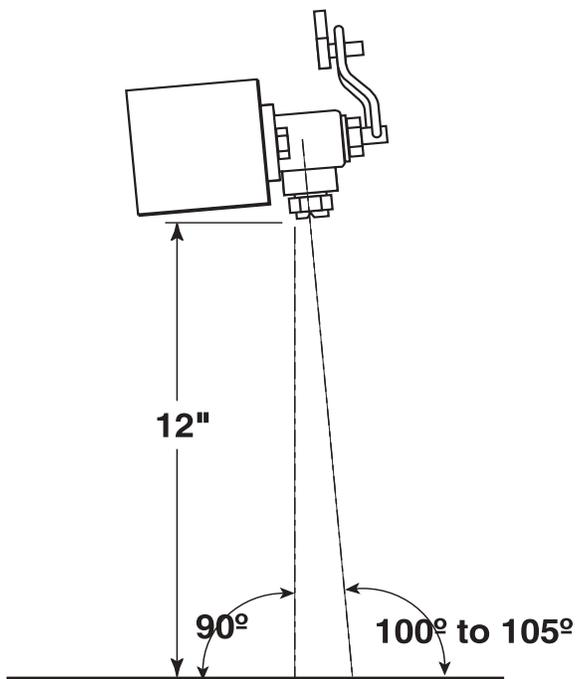

Figure 20. Nozzle Height Adjustment
1. Adjust electrode assembly per Figure 20.
Lower spray bar and adjust so that nozzles are approximately 12 inches above road when tank is empty. At this height spray fans will overlap to provide triple lap coverage. See Figure 20